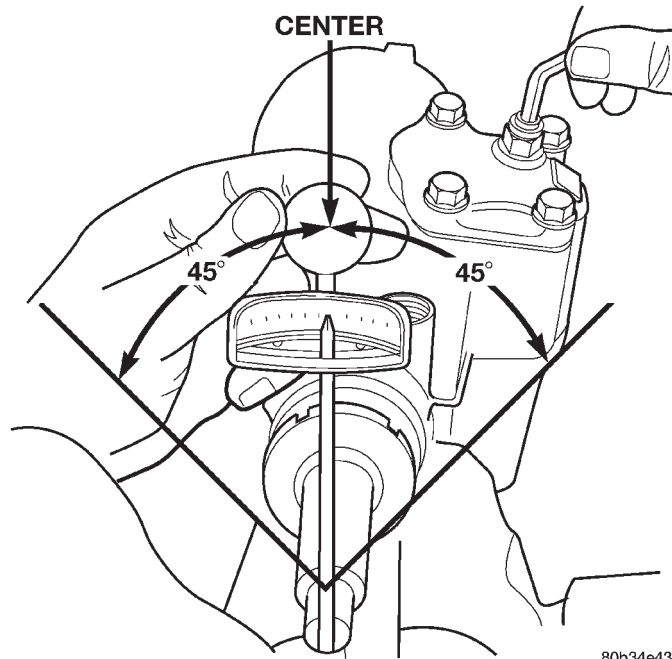

Fig. 29 Checking Over-center Rotation Torque
(3) Place the torque wrench in the vertical position on the stub shaft. Rotate the wrench 45 degrees each side of the center and record the highest rotational torque in this range (Fig. 29). This is the Over-Center Rotating Torque.